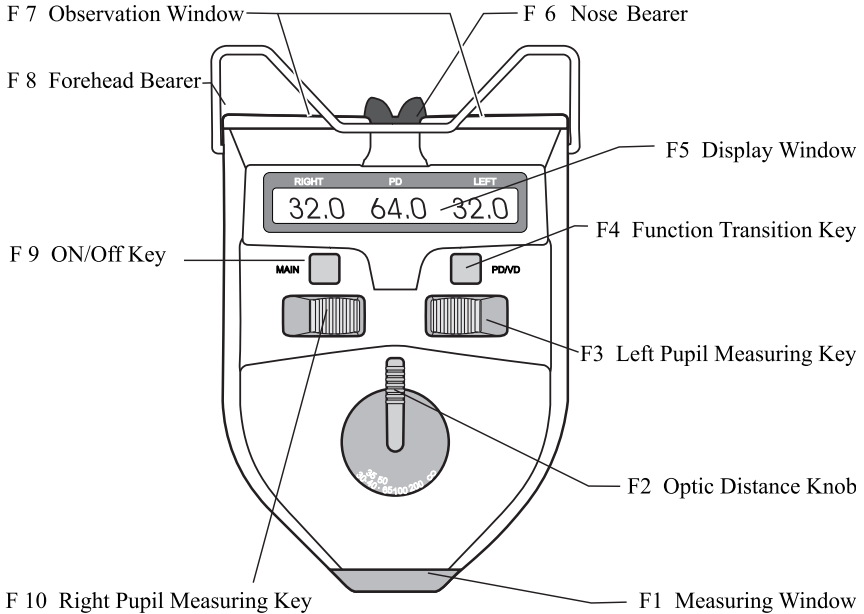

Fig.1
5.1 Description of the front panel (as shown in Fig.1)
e. In order to measure the pupillary distance at different optic distances, please turn the Optic Distance Knob(as shown in Fig.1 NO.2) to your optic distances first and then make your measurement. This device sets some different optic distance locations such as 30cm, 35cm, 40cm, 50cm, 65cm, 1m, 2m and ∞ .